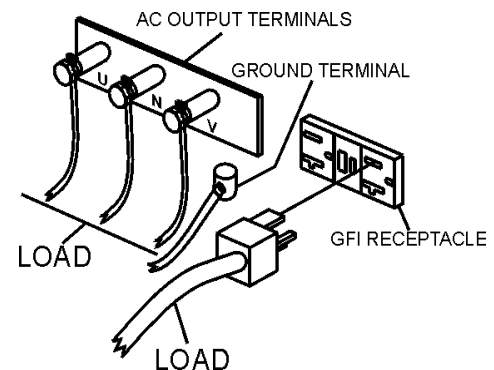

Figure 13. UNV Terminal Lugs (Load)
2. Connect the load to the UNV terminals as shown in Figure 13. These terminals can be found on the output terminal panel, (see page 22 Figure 6). To gain access to the output terminals lift the UNV cover. Tighten terminal nuts securely to prevent load wires from slipping out.